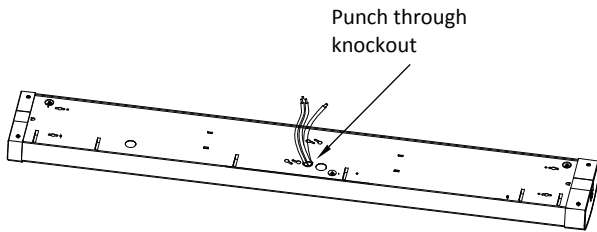

Figure 7
1. Use a screwdriver to punch out one of the knocked holes (Figure 7) and take out the cables through the knockout hole from the housing.